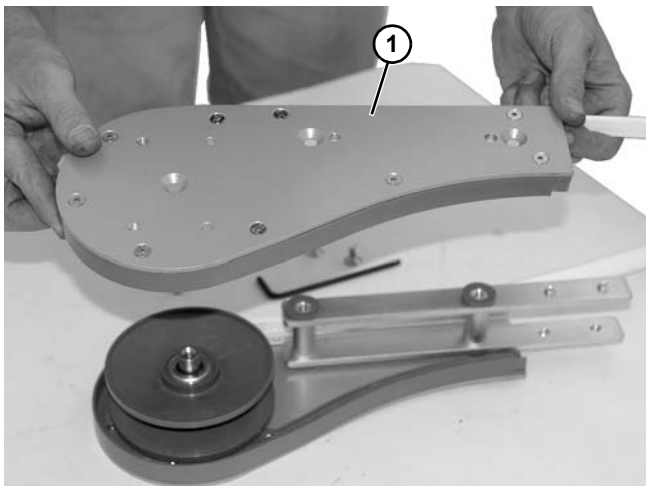

Figure 122
3. Remove the head plate (Figure 122, item 1) from the idler end.